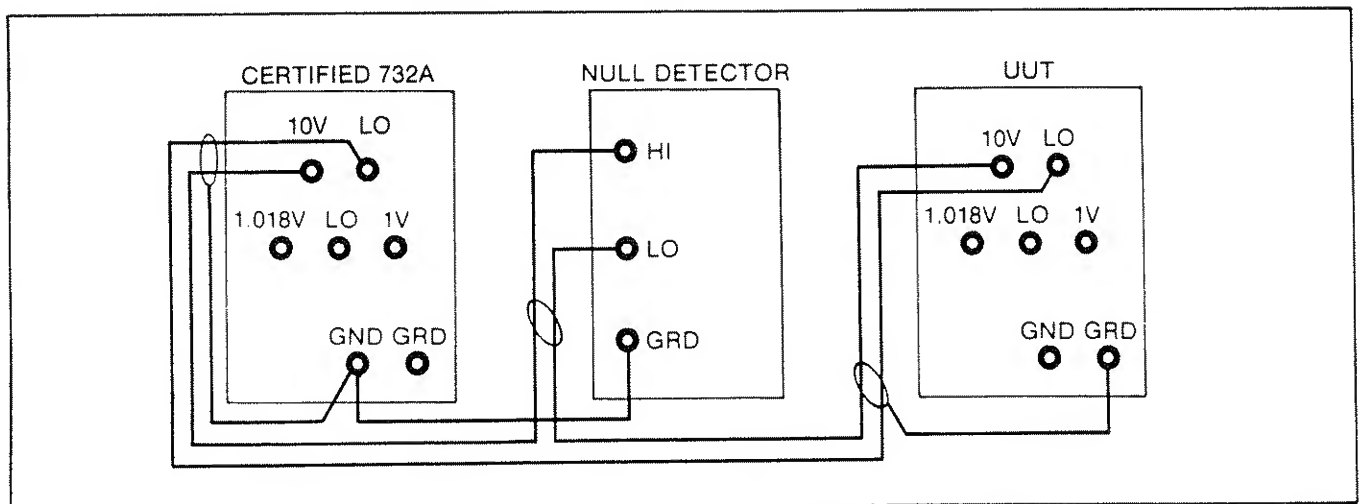

Figure 4-6. 732A Procedure 'A' 10V Calibration
3. Connect the UUT and the Certified 732A as shown in Figure 4-6.